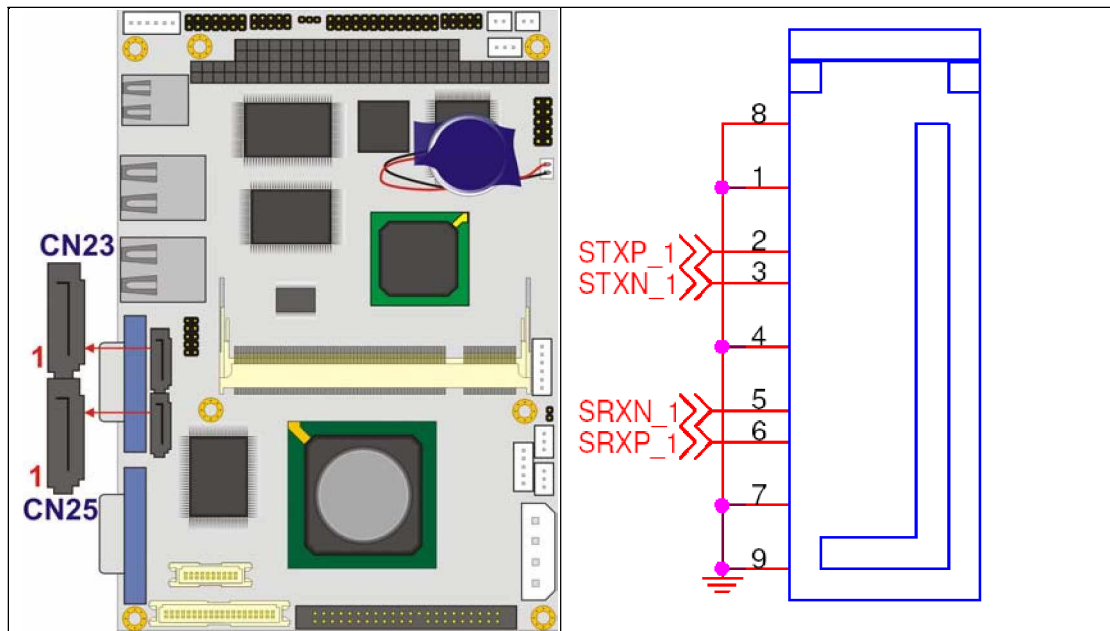

Figure 3-20: SATA Drive Connector Locations
- CN Location: See **Figure 3-20**